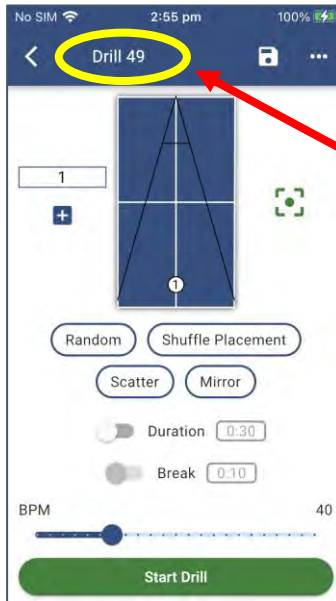
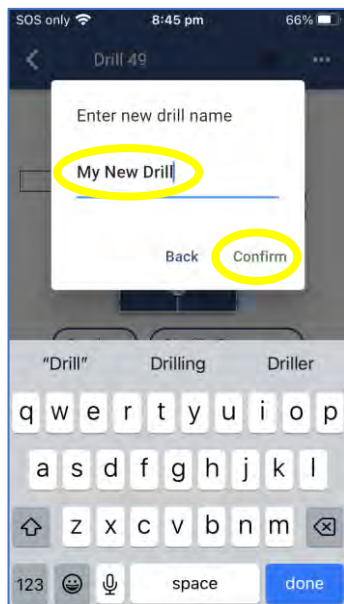

Figure 3-38
Figure 3-39
2. From the Drill Edit screen, touch the name of the Drill. (Figure 3-38) This will open a new window where you can enter a new Drill Name. (Figure 3-39)
- Enter a new Drill Name (Example: My New Drill) and press the Confirm button. (Figure 3-39)